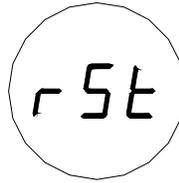

Figure 10: Relay Reset
2. The relays can be reset via the magnetic switch using a magnet. Place the magnet over the GM Logo on the cover of the unit. After three seconds the display will show "rSt". Remove the magnet at this time and the relays will be reset (Figure 10).